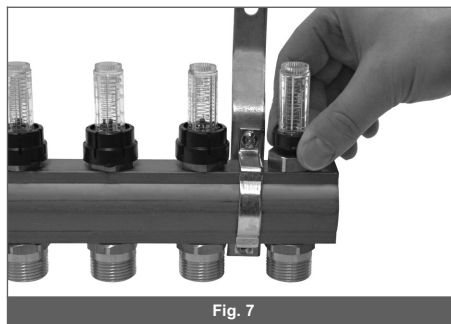

Fig. 7
2. By turning the flowmeter adjust to the required flow on the scale (in accordance with the design) - Fig. 7.